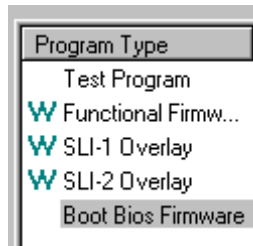

Figure 1: Iputilnt, Program Type list.
6. Click **Boot Bios Firmware** (Figure 1).